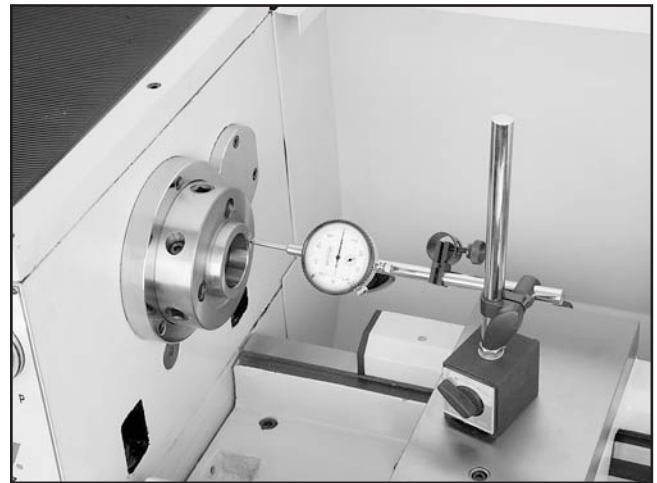

Figure 144. Example of preload dial indicator setup.
10. Mount the dial indicator on the cross slide and move the carriage toward the spindle until the indicator contact point just touches the chuck face, then zero out the dial (see **Figure 144** for an example).